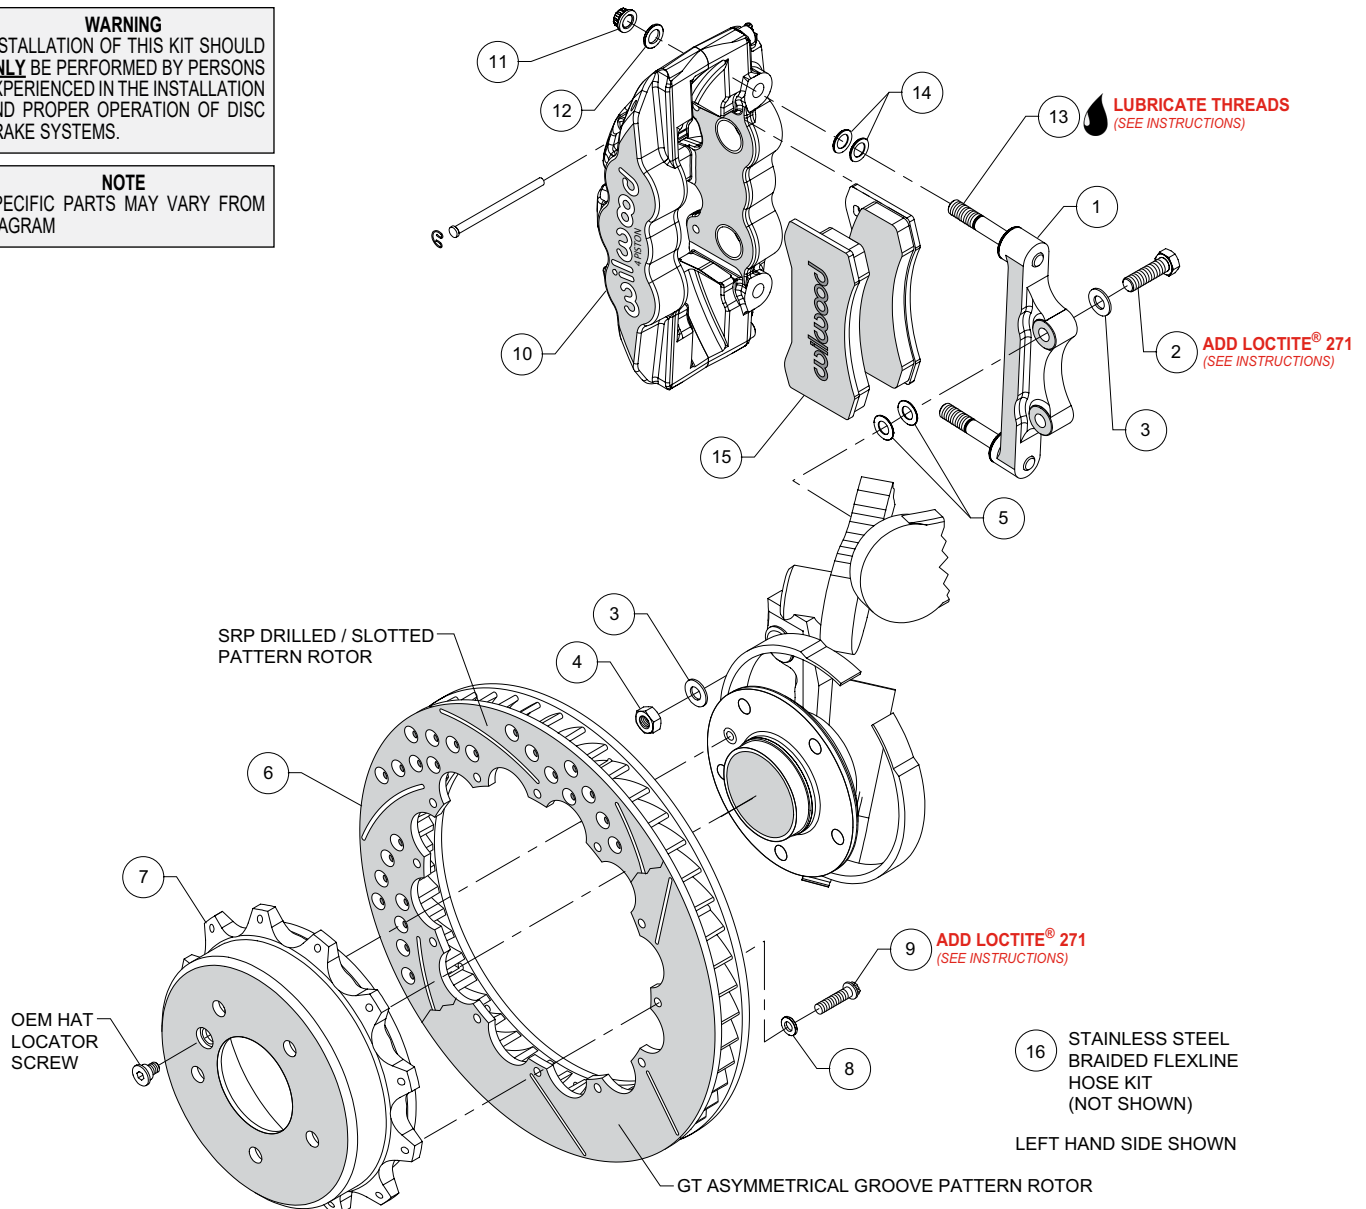
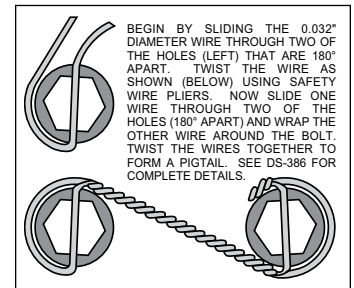

Figure 1. Typical Installation Configuration
Figure 3. Safety Wire Diagram
(numbers in parenthesis refer to the parts list and Figure 1 on the preceding pages):
- The caliper mount bracket (1) should initially be installed with clean, dry threads on the mounting bolts. Orient the bracket as shown in Figure 1, and Photo 2, and install using washers (3), bolts (2), and nuts (4). Initially place two .030" thick shims (5) on each bolt between the bracket and upright, Figure 1. Temporarily tighten the mounting bolts. **NOTE: The bracket must fit squarely against the mount bosses on the upright.** Inspect for interference from casting irregularities, machining ridges, burrs, etc. Later, after the caliper alignment has been checked, the mount bolts will be secured using red *Loctite*® 271.
- Orient the rotor (6) and the hat (7) as shown in Figure 1 and Photo 3. Attach rotor to hat using bolts (9) and washers (8). Apply red *Loctite*® 271 to the bolt threads and torque to 140 in-lb using a criss-cross pattern. For an added measure of security, the bolts may be safety wired using standard 0.032 inch diameter stainless steel safety wire as shown in Figure 3. Please refer to Wilwood's data sheet DS-386 (available at www.wilwood.com/Pdf/DataSheets/ds386.pdf) for complete safety wire installation instructions.
- Lubricate the caliper mounting studs (13) with lightweight oil. Initially place two .030" thick shims (14) on each stud as shown in Figure 1 and Photo 4. Mount the caliper (10) onto the bracket (1) using lock nuts (11) and washers (12), Figure 1. Temporarily tighten the lock nuts and view the rotor through the top opening of the caliper. The rotor should be centered in the caliper, Photo 5. If not, adjust by adding or subtracting shims (5) between the bracket and the upright. Always use the same amount of shims on each of the two mounting bolts. Once the caliper alignment is correct, remove the bracket mounting nuts (4) one at a time, apply red *Loctite*® 271 to the threads, and torque to 40 ft-lb.
- Remove the two pad retaining pins from the caliper by carefully popping out the pin retaining clips and sliding out the pins. Insert the brake pads (15) into the caliper from the bottom, Figure 1, and Photo 6, with the friction material facing the rotor and secure the brake pads in place with the pad retaining pins and clips, Photo 7. Reinstall the caliper onto the caliper mounting bracket and temporarily tighten the lock nuts. Check that the top of the brake pad is flush with the outside diameter of the rotor, Photo 8. If not, adjust by adding or subtracting shims (14) between the caliper and the bracket. After the caliper pad height is set, torque the caliper lock nuts (11) to 47 ft-lb.